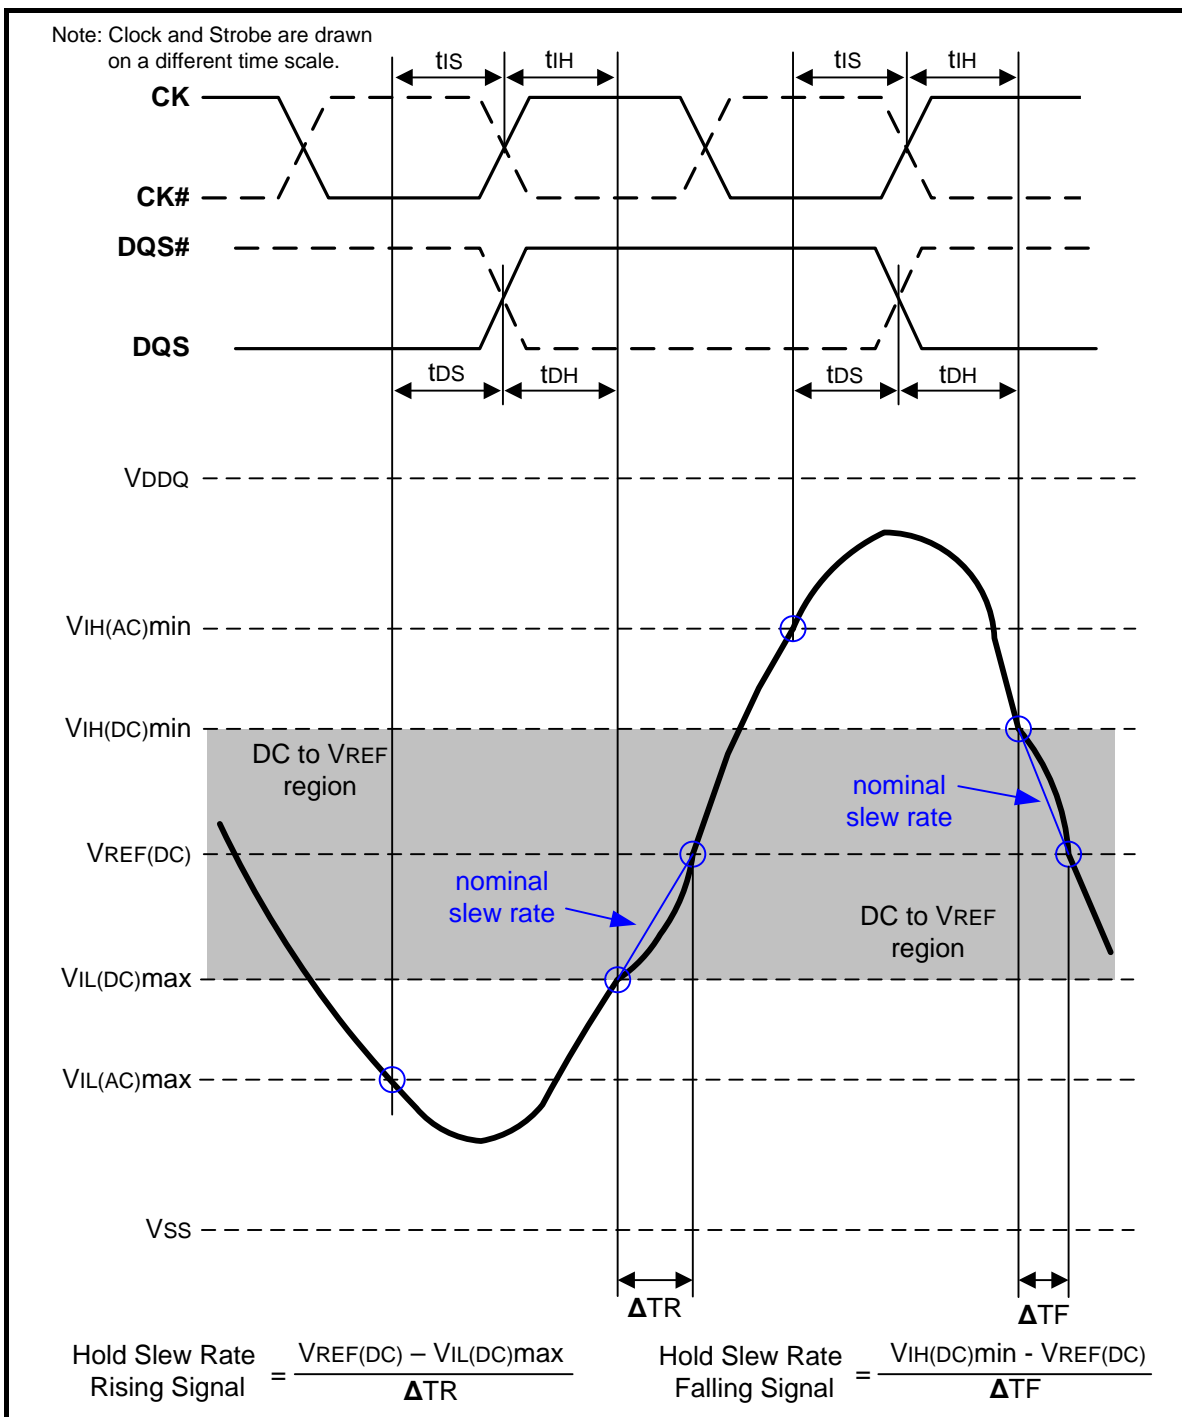
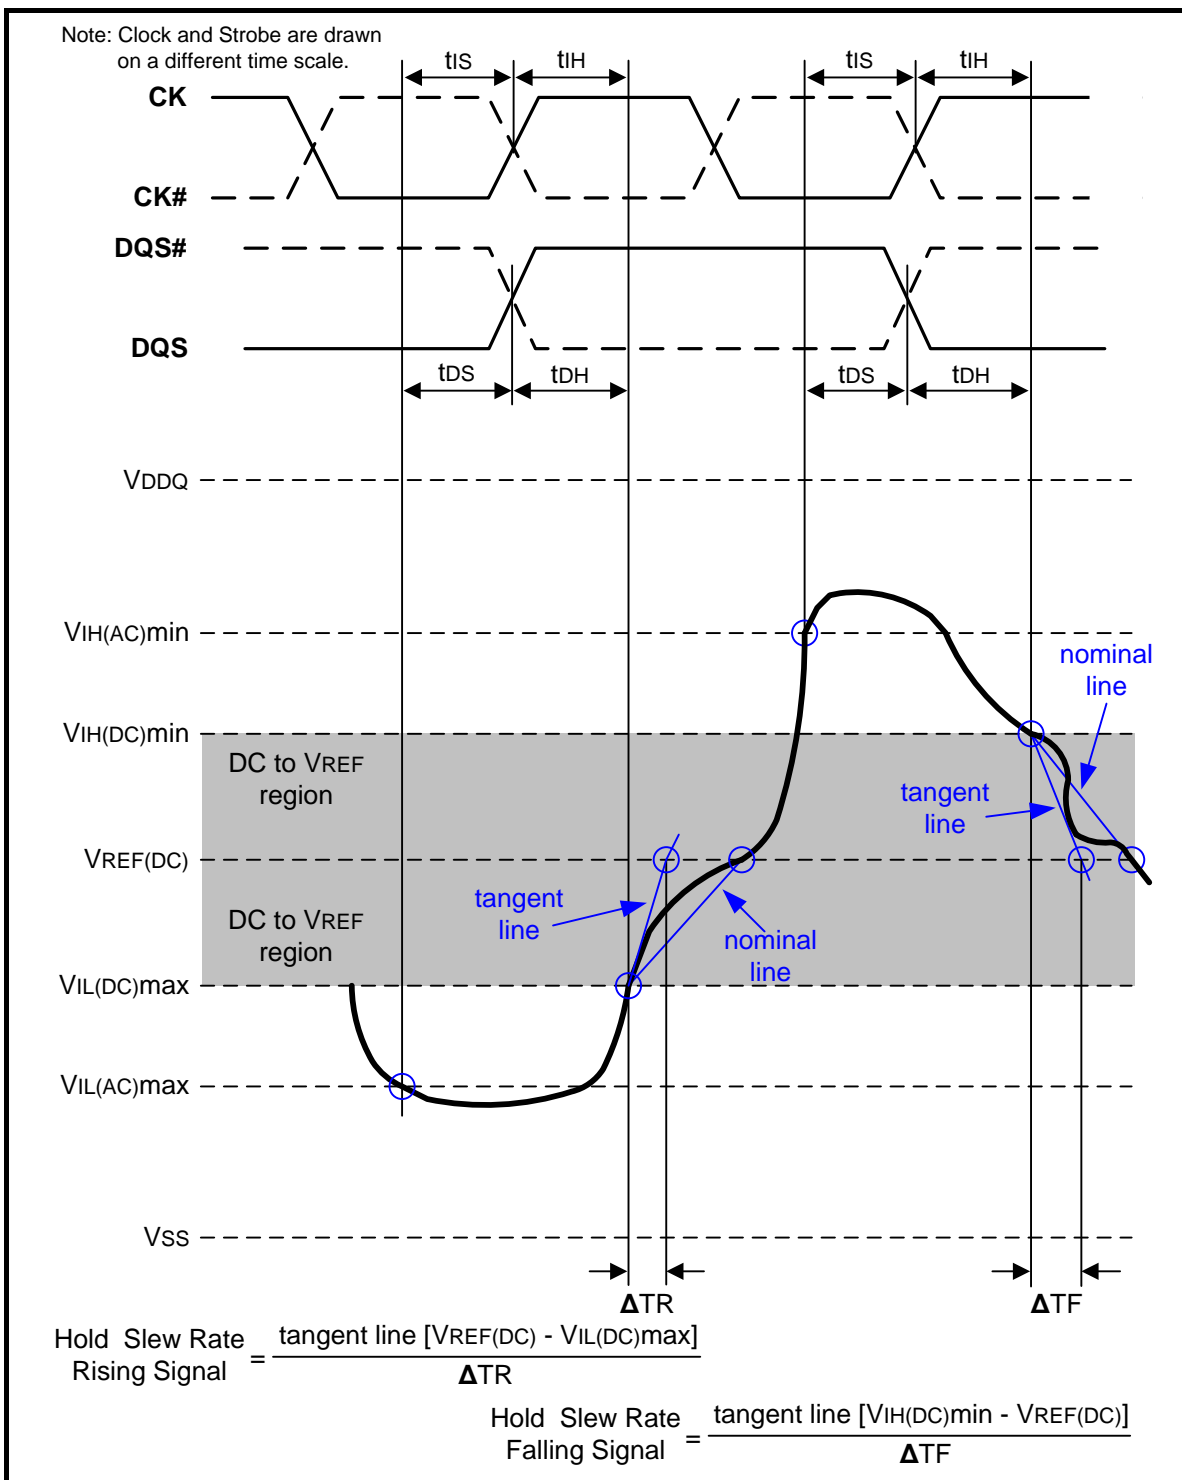

Figure 108 – Illustration of nominal slew rate for hold time t_{DH} (for DQ with respect to strobe) and t_{IH} (for ADD/CMD with respect to clock)
Figure 110 – Illustration of tangent line for for hold time tDH (for DQ with respect to strobe) and tIH (for ADD/CMD with respect to clock)
Hold (t_{IH}) nominal slew rate for a rising signal is defined as the slew rate between the last crossing of $V_{IL}(\text{DC})_{\text{max}}$ and the first crossing of $V_{REF}(\text{DC})$. Hold (t_{IH}) nominal slew rate for a falling signal is defined as the slew rate between the last crossing of $V_{IH}(\text{DC})_{\text{min}}$ and the first crossing of $V_{REF}(\text{DC})$. If the actual signal is always later than the nominal slew rate line between shaded 'DC to VREF(DC) region', use nominal slew rate for derating value (see Figure 108). If the actual signal is earlier than the nominal slew rate line anywhere between shaded 'DC to VREF(DC) region', the slew rate of a tangent line to the actual signal from the DC level to $V_{REF}(\text{DC})$ level is used for derating value (see Figure 110).
Hold (tDH) nominal slew rate for a rising signal is defined as the slew rate between the last crossing of VIL(DC)max and the first crossing of VREF(DC). Hold (tDH) nominal slew rate for a falling signal is defined as the slew rate between the last crossing of VIH(DC)min and the first crossing of VREF(DC) (see Figure 108). If the actual signal is always later than the nominal slew rate line between shaded 'DC level to VREF(DC) region', use nominal slew rate for derating value. If the actual signal is earlier than the nominal slew rate line anywhere between shaded 'DC to VREF(DC) region', the slew rate of a tangent line to the actual signal from the DC level to VREF(DC) level is used for derating value (see Figure 110).